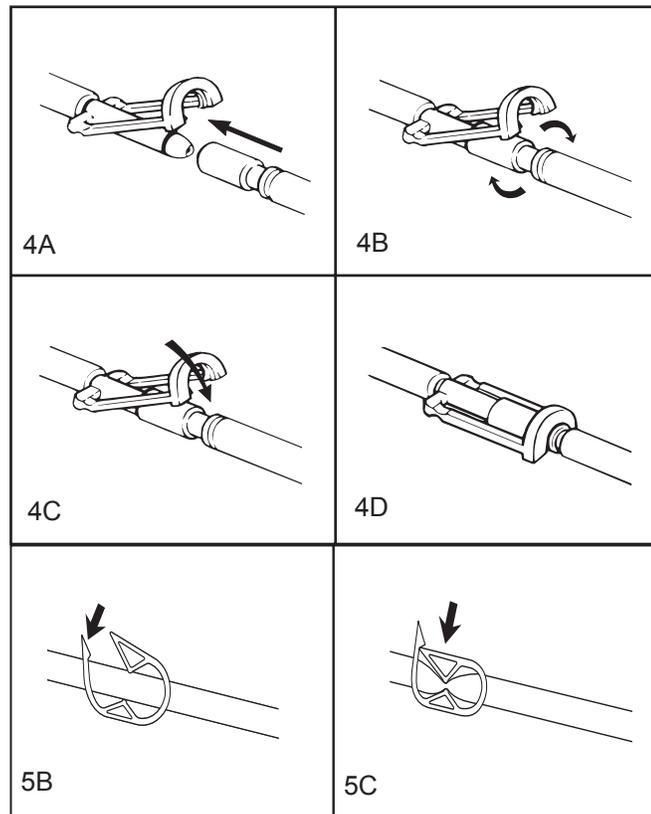

Figure 4: Clik-Tite® Connectors
5. Coil the hose, and attach the Clik-Tite® connectors together on the hose (See Figure 4, Page 7), where applicable.